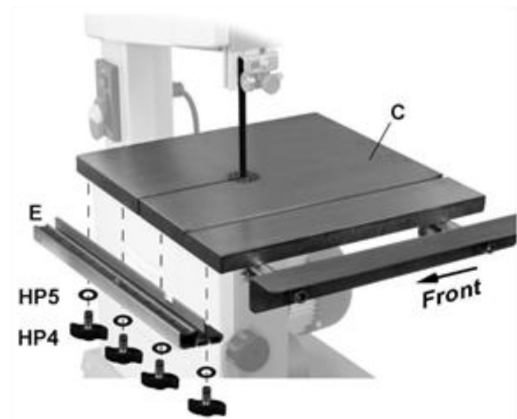
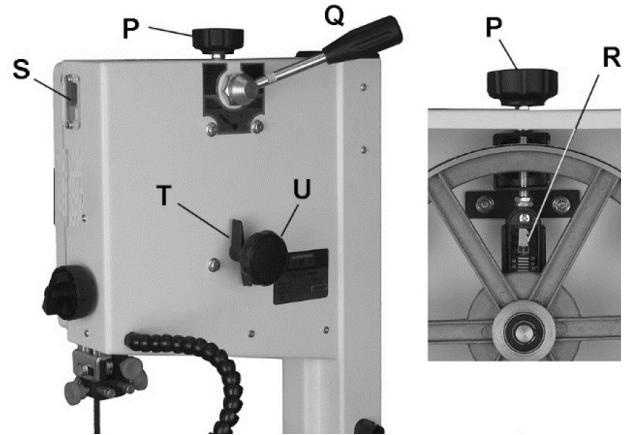

FIG. 9
FIG. 23
Loosen lock handle (shown in Figure 9) and pivot trunnion (A1) to horizontal position. Loosen lock knob (C2) and pull extension (C1) out from the table (C). Orient table as shown, then maneuver to allow saw blade (A2) to pass through slot (C3) to the center. Line up four threaded mounting holes underneath table with the four mounting through-holes on trunnion.
Refer to Figure 9.
Remove guide rail (E, Figure 9). Release tension on blade by moving tension handle (Q, Figure 23) to the right.
Engage tension on the blade by moving quick tension handle (Q, Figure 23) to the left.
Refer to Figure 23:
Tracking refers to how the blade is situated upon the wheels while in motion. The blade should track in the center of both wheels. The blade must be slightly tensioned before adjusting blade tracking. Make sure blade guides and bearings (M,N, Figure 22) do not interfere with blade. If blade tracking is required, blade guide adjustment is described in sect to "Guide bearing adjustment". Open upper and lower doors. Rotate upper wheel forward by hand, and observe position of blade on wheel through the window (S, Figure 23). Blade should be in the center of the wheel. If adjustment is necessary: